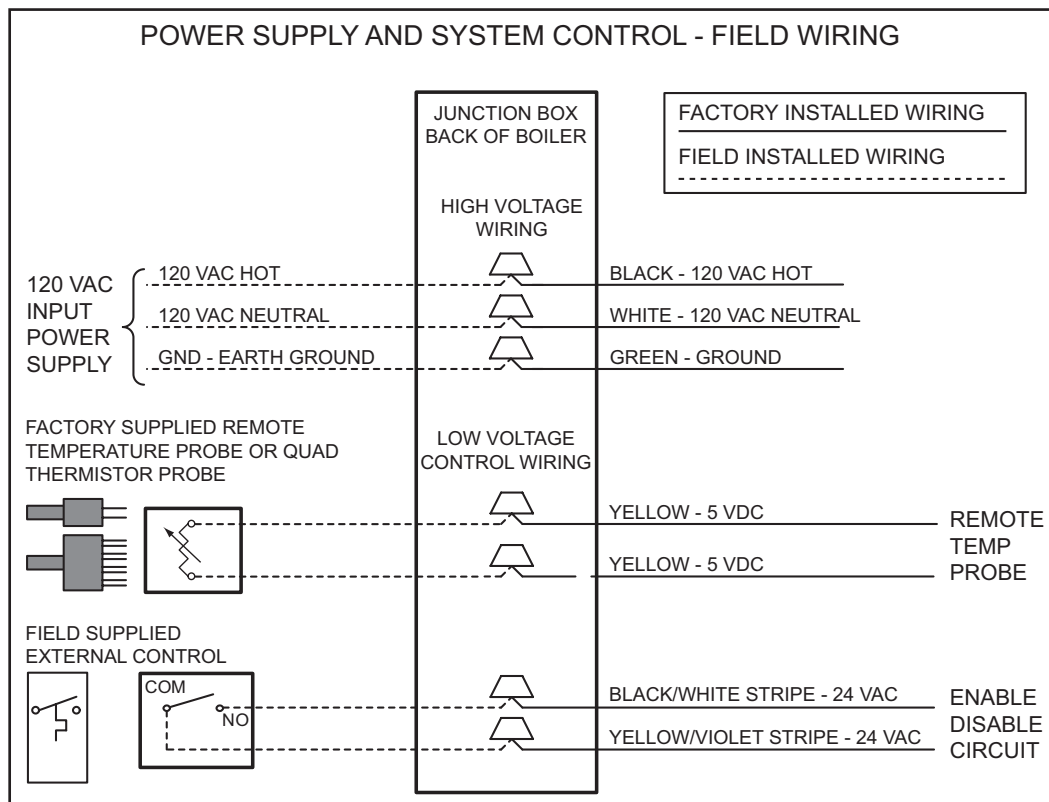

Figure 1
2. The Enable/Disable circuit must be a closed circuit. There are two wires provided in the wiring junction box on the back of the Boiler for this circuit, see Figure 1.
- B. The field supplied control must function as a thermostat with a set of “dry” (no voltage or load) control contacts to use with the Boiler’s Enable/Disable circuit, see Figure 1 on page 6 for wiring.
Once the probe has been installed in the system, see the Field Wiring section in the Installation Manual that came with the Boiler and Figure 1 on page 6 in this manual for wiring instructions.